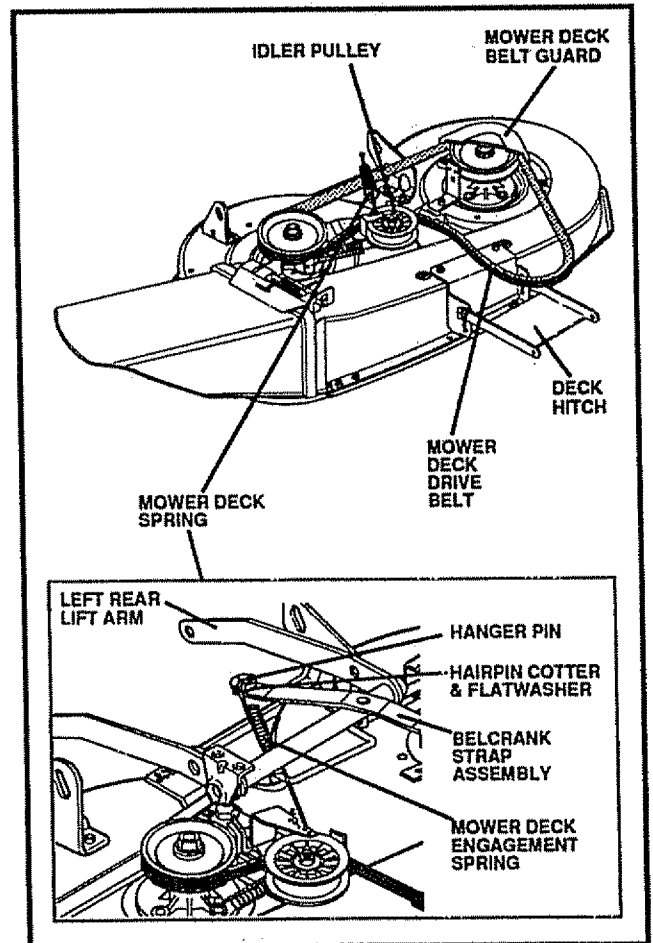

FIG. 21
- Disconnect mower deck engagement spring from belcrank strap assembly (see FIG. 21).
- From left side of tractor, slide deck rearward. Then connect mower deck engagement spring to hanger pin on the mower clutch lever belcrank strap assembly, and reinstall flatwasher and hairpin cotter on hanger pin (see FIG. 21).